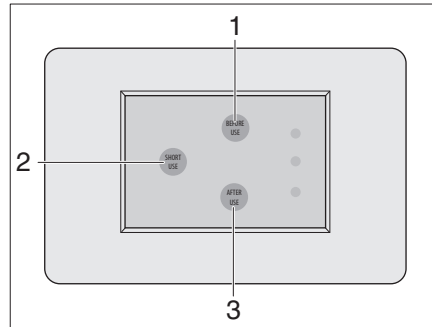

Fig. 386 Panel macerator toilet
- Press the Short-Use-button (Fig. 386,2).
- Before going to the toilet, press the Before-Use button (Fig. 386,1).
- After using the toilet, press the After-Use button (Fig. 386,3).